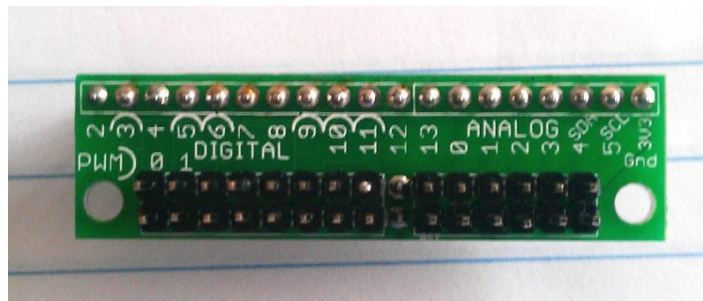

Fig. 4-3. Solder the 19 pins for the breadboard, all facing down.
- 3) Solder the 19 pins for the breadboard, all facing down, see fig. 4-3